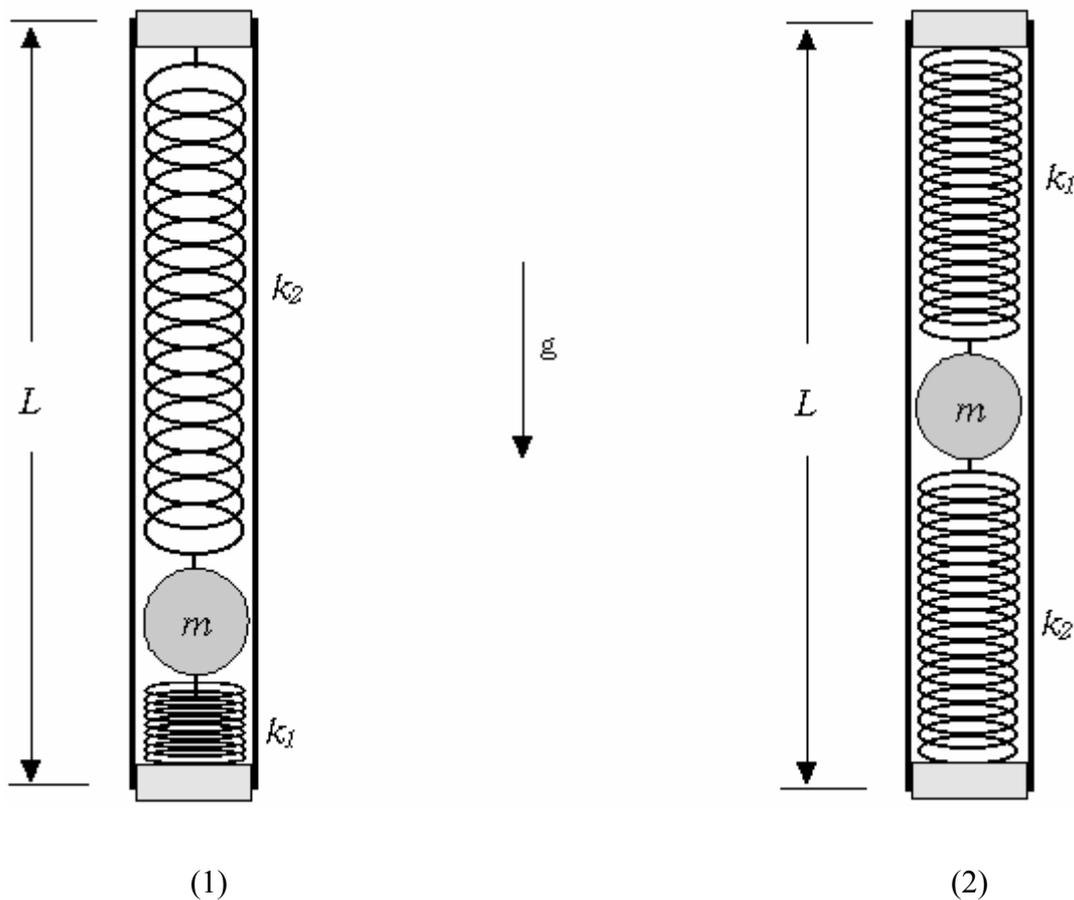

Fig. 3 Oscillation of the Mechanical “Black Box” (not to scale)
In this part, you need to perform small oscillation experiments using the MBB as a rigid pendulum. There are two small holes at each end of the MBB. Two thin pins inserted into the holes can be used as the pivot of small oscillation. The U-shaped support is to be clamped to the stand and used to support the pivot. Note that the angular frequency  $\omega$  of small oscillation is given as  $\omega = [\text{torque}/(\text{moment of inertia} \times \text{angle})]^{1/2}$ . Here, the torque and the moment of inertia are with respect to the pivot. Similarly to **PART-B**, consider two experimental conditions, shown in Fig. 3, to avoid the unknown moment of inertia  $I_0$  of the MBB excluding the ball.
1. Measure the periods  $T_1$  and  $T_2$  of small oscillation shown in Figs 3(1) and (2) and write down their values, respectively. (1.0 points)